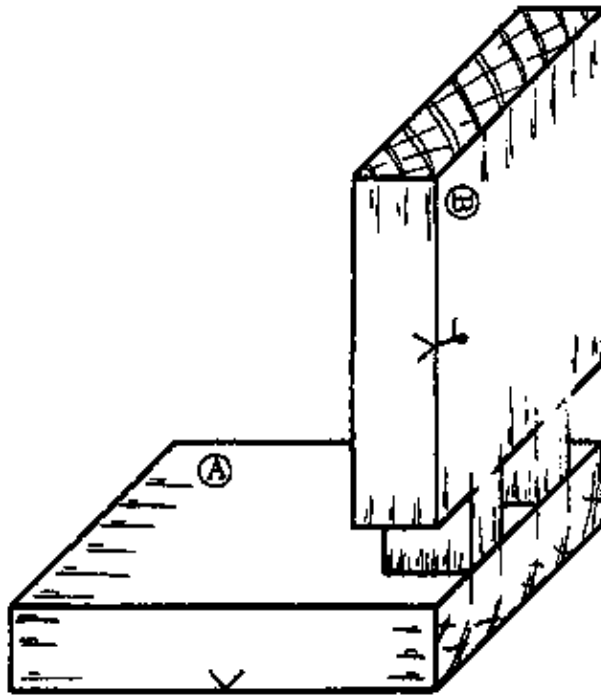

Fig. 9
– Place piece B (with the tenons) over the end of piece A, with the face side to wards the outside as indicated in Fig. 9.
– Mark the shape of the tenons onto piece A with a pencil (Fig. 9).